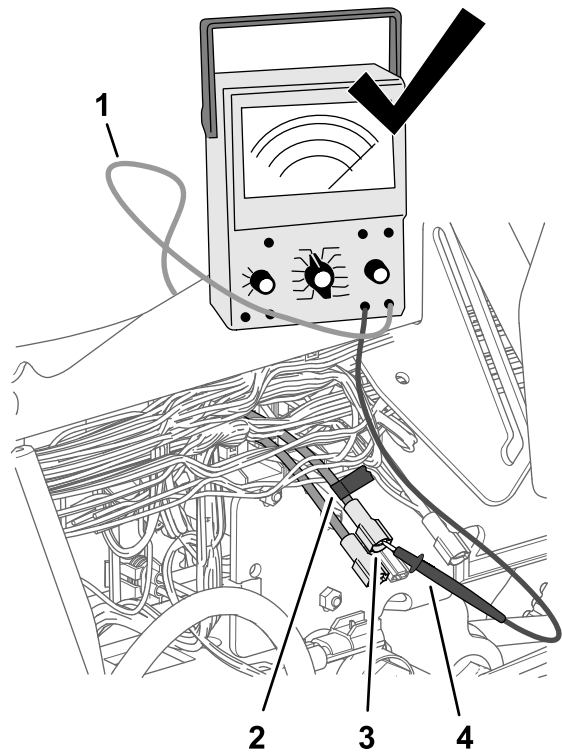

**Figure 190**
2. At fuse block 3 of the machine, insert the multi-meter probe into contact 4 (the right column) of fuse-socket 2 as shown in Figure 190.